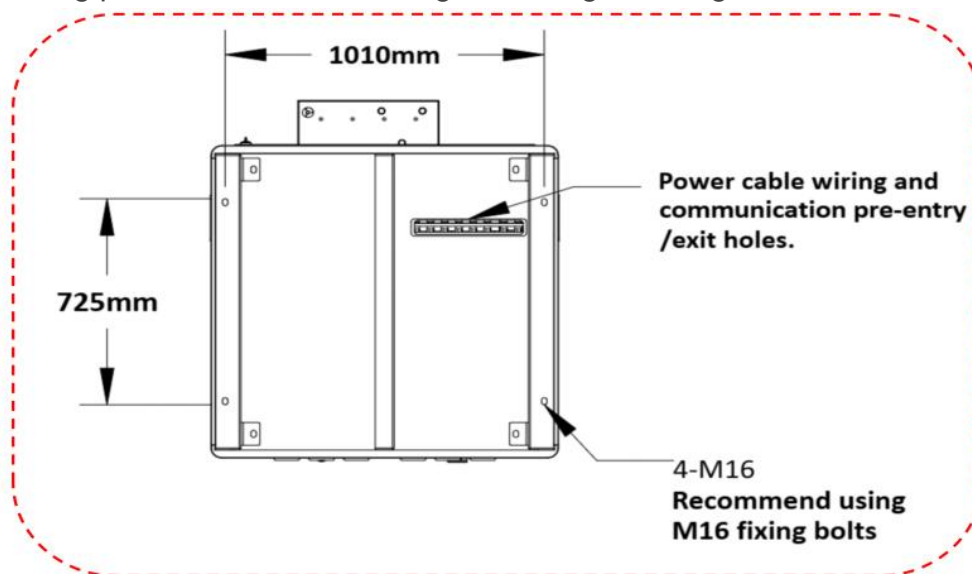

Figure 3.7-1 Basic reference diagram
1. Select the installation position of the equipment in advance according to the product size, and ensure proper positioning and fixation; The suggested foundation is shown in Figure 3.7-1.